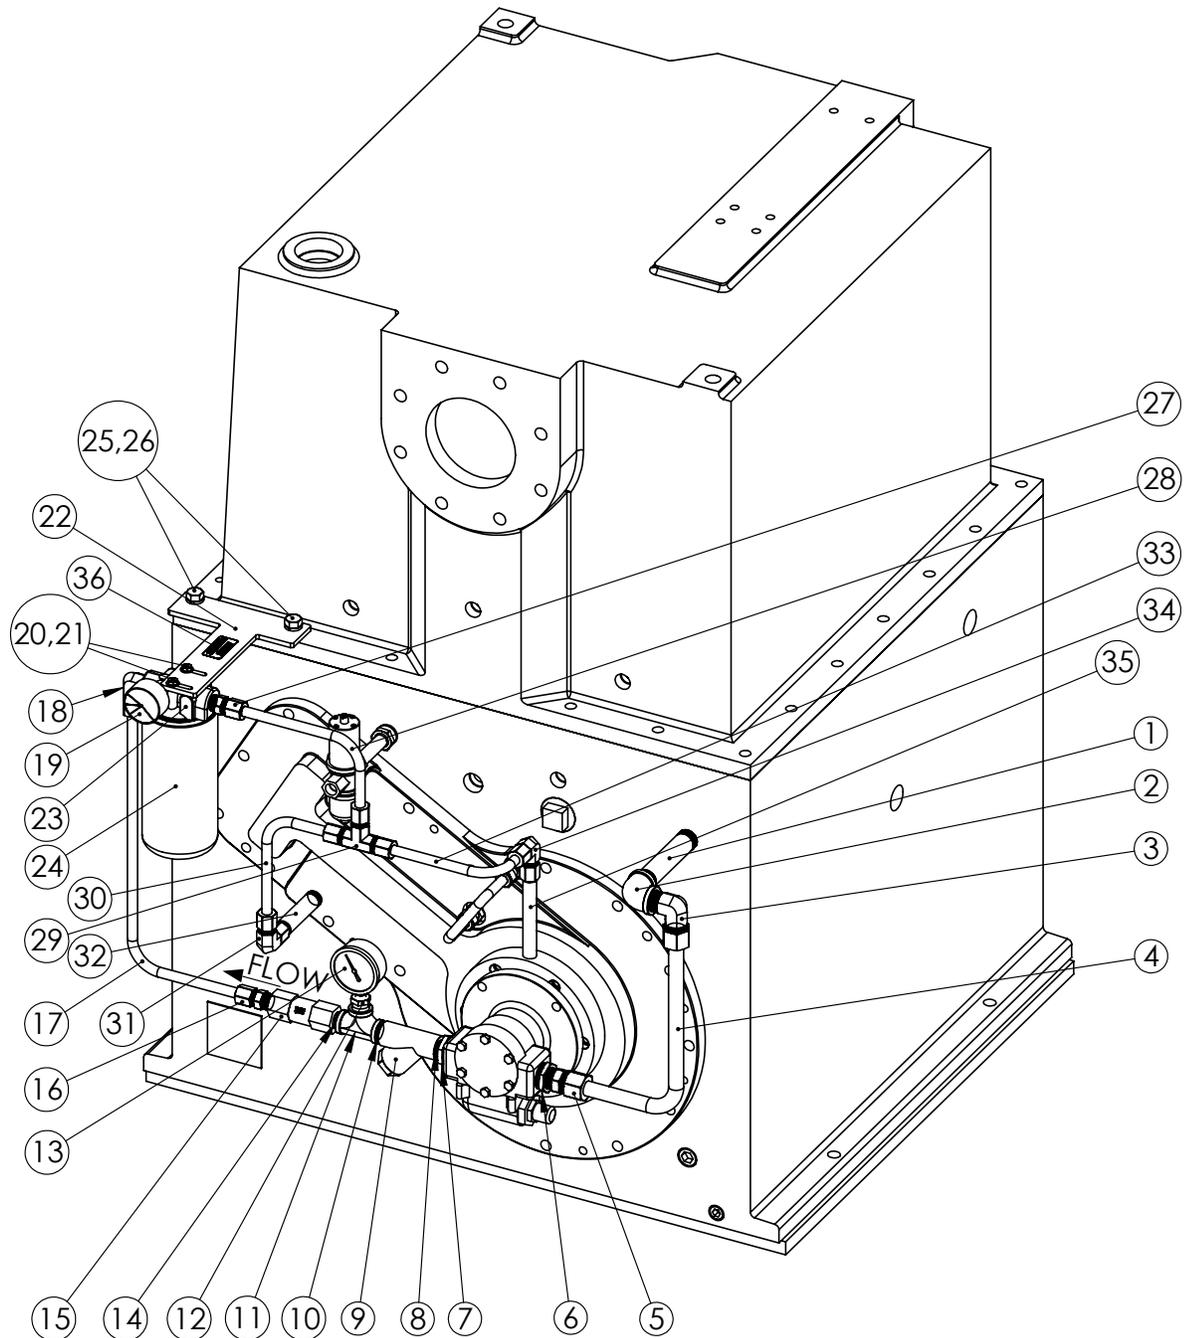

Figure 4-2 – KT-850 Filter Kit Drawing
4. Remove the two bolts in the separator housing where the bracket will be mounted (refer to FIGURE 4-2). These bolts will not be reused.
5. Loosely attach filter housing/bracket assembly using bolts and washers (#20 & #21 – FIGURE 4-2).
6. Install kit plumbing as shown in FIGURE 4-2 starting with #1 using the Loctite 567 on all NPT parts. Tighten NPT fittings, but leave tube fittings loose until assembled. Tubes may be shortened/cut using a standard tube cutter. Ensure check valve is orientated correctly with flow.
2. When starting KT Pump the green/red gage (#14 – FIGURE 4-2) needle may be in the red until the oil is above 140°F, this is normal. If gage needle is in the red when temperature is above 140°F, replace filter.